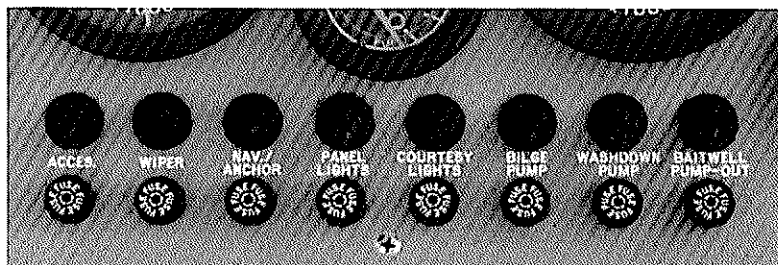

Figure 19
6. Test all switches on the accessory panel. See figure 19. Make sure the switches activate the equipment they control, and all equipment is in good operating condition.